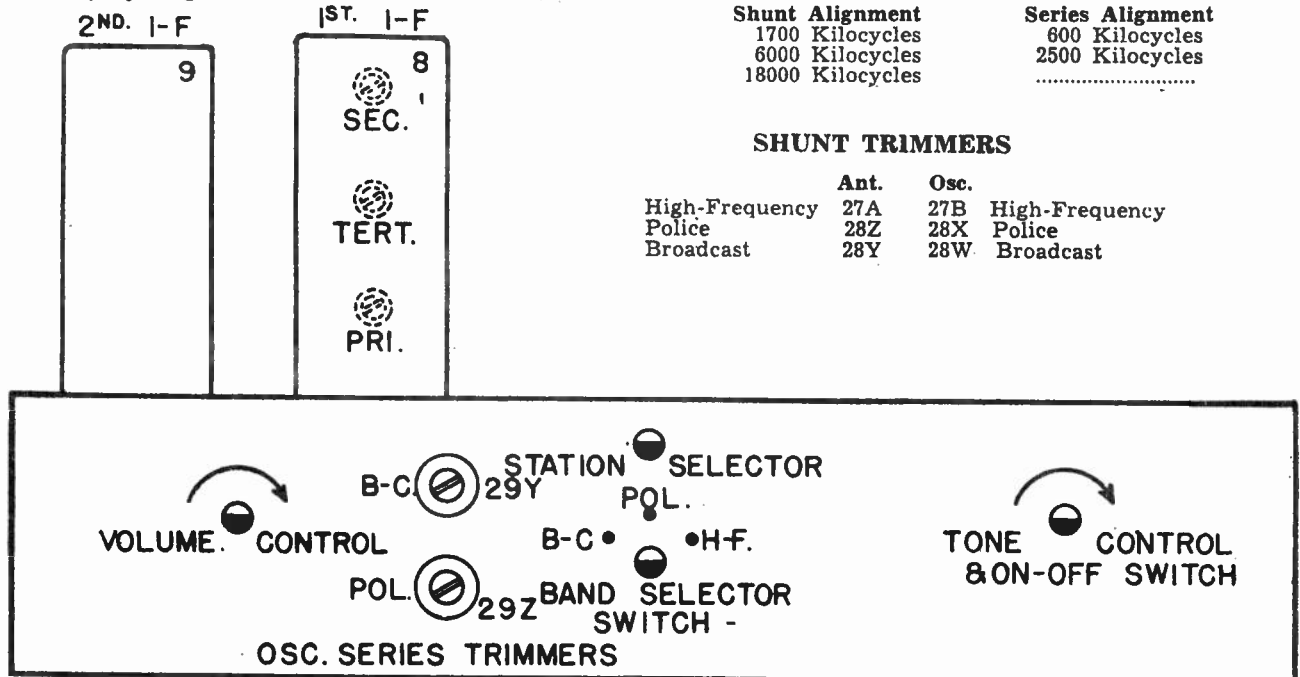

Fig. 4 • Front View 626
- (f) Close the middle trimmer (Tert. Fig. 4) on the 1st I-F transformer so that it is moderately tight. (Do not force adjusting screw).
(b) To align the series trimmers (29Y-29Z Fig. 4) set the signal generator to the frequency indicated (c) and then tune-in this signal with the station selector for maximum output. To obtain the best adjustment for each series trimmer it will be necessary to rotate the station selector back and forth slightly while adjusting the trimmer for maximum output.